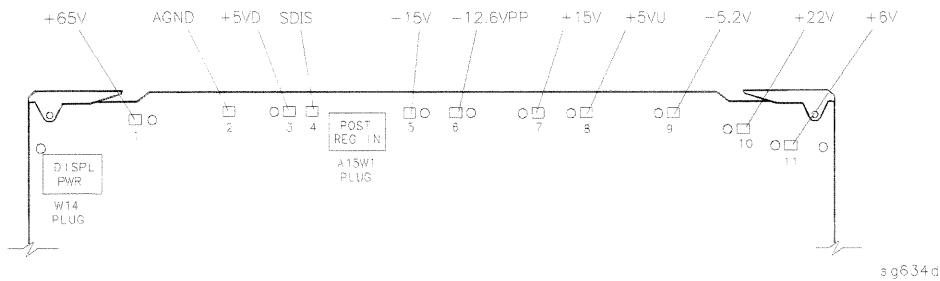

Figure 5-3. A8 Post Regulator Test Point Locations
Measure the DC voltages on the test points of A8 with a voltmeter. Refer to Figure 5-3 for test point locations and Table 5-1 for supply voltages and limits.
4. Short A8TP2 (AGND) (see Figure 5-3) to chassis ground with a clip lead.